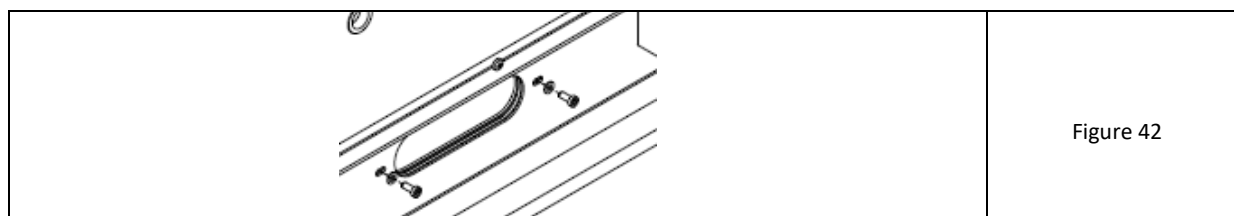

Figure 42
4. Additionally, at both ends of the oval outflow tighten the screws M5x12 with cylindrical head and Allen socket. Place a flat washer A5.3 under the screw head (fig. 42).